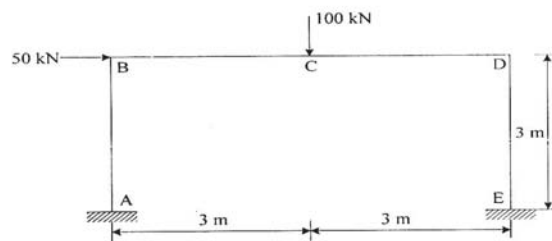

Fig. 8
- Q8)** Design a portal frame loaded and supported as shown in Fig.8. [18]